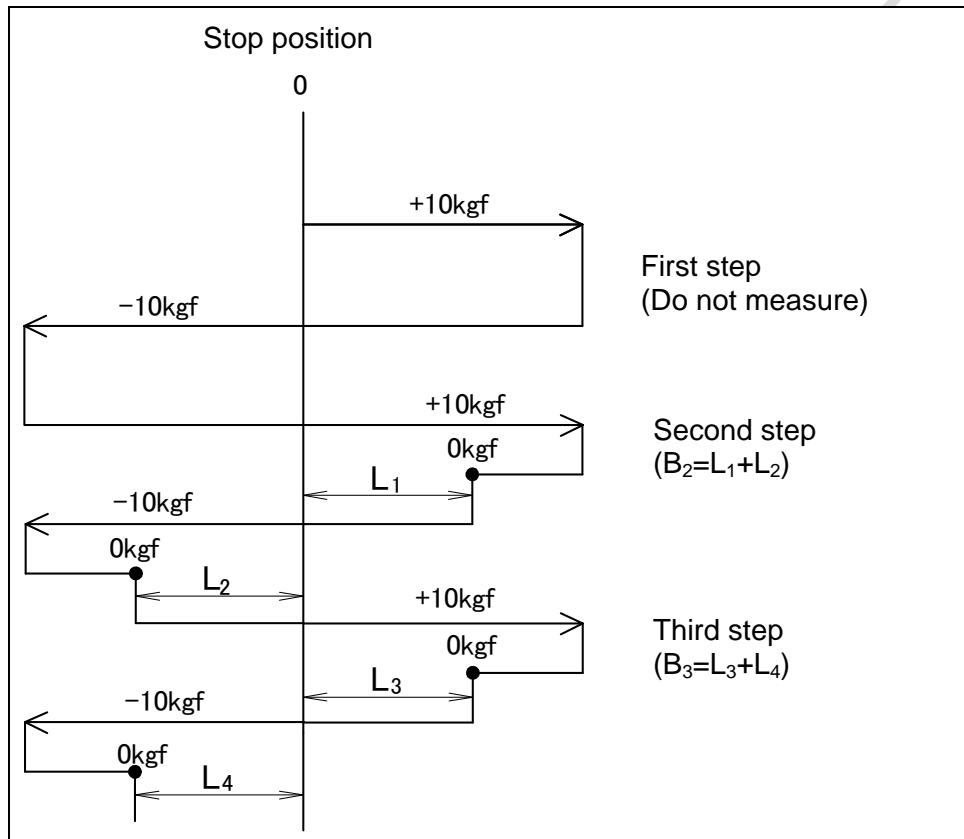

Fig. 4.2 (a) Backlash Measurement Method
- 1 Put the positioner in a specified posture. (See Fig. 4.2 (a))
- 2 Apply positive and negative loads to each axis as shown in Fig. 4.2 (a).